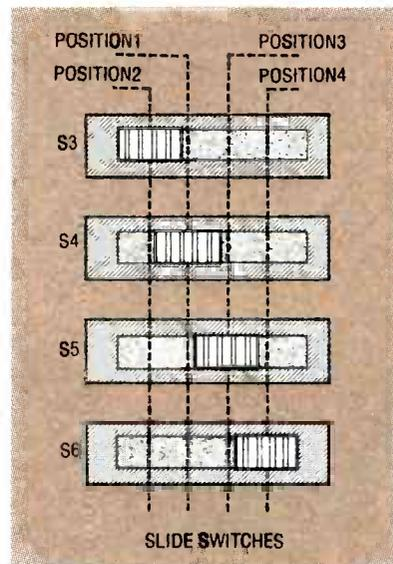

FIG. 9—FOUR POSSIBLE ACTUATOR SETTINGS of the two-pole, four-throw slide switches S3 to S6 that adapt the TVS250 to a specific phone.
5) *Caution:* Be sure that none of the actuators of the four switches S3 to S6 are in the same positions (see Fig. 9). If the jumper post shorting clips remain in place and two of the switches are in the same position, the unit will malfunction. Moreover, power indicator LED1 (green) might not light. The removal of the four shorting clips prevents this.
6) Move S1's actuator ON and green LED1 should light. Move S2's actuator back and forth and red LED2 should turn on and off. When red LED2 is illuminated, the scrambler is in the *scrambled mode*. Before continuing, be sure red LED2 is off (*normal mode*). When configured properly, the actuators of S3 to S6 will be in one of four possible positions as shown in Fig. 9. Remember that no two switch actuators should be set in the same position. Switches S3 and S6, which control the handset speaker connection, should be adjusted first. To find the proper switch settings for the handset speaker, listen for the phone's dial tone.